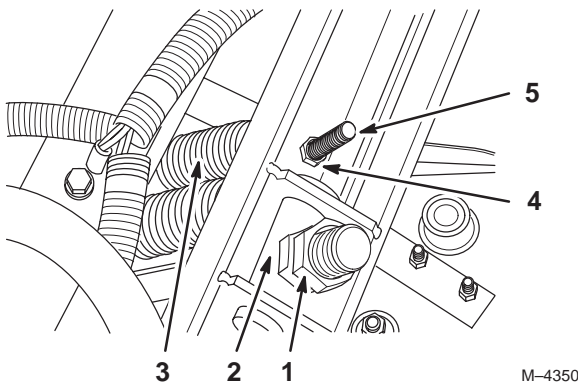

Figure 27
3. Measure the distance between the cylinder jam nuts and cylinder pivot pin (Fig. 27). The distance should be approximately 2-1/4 in. (57 mm).